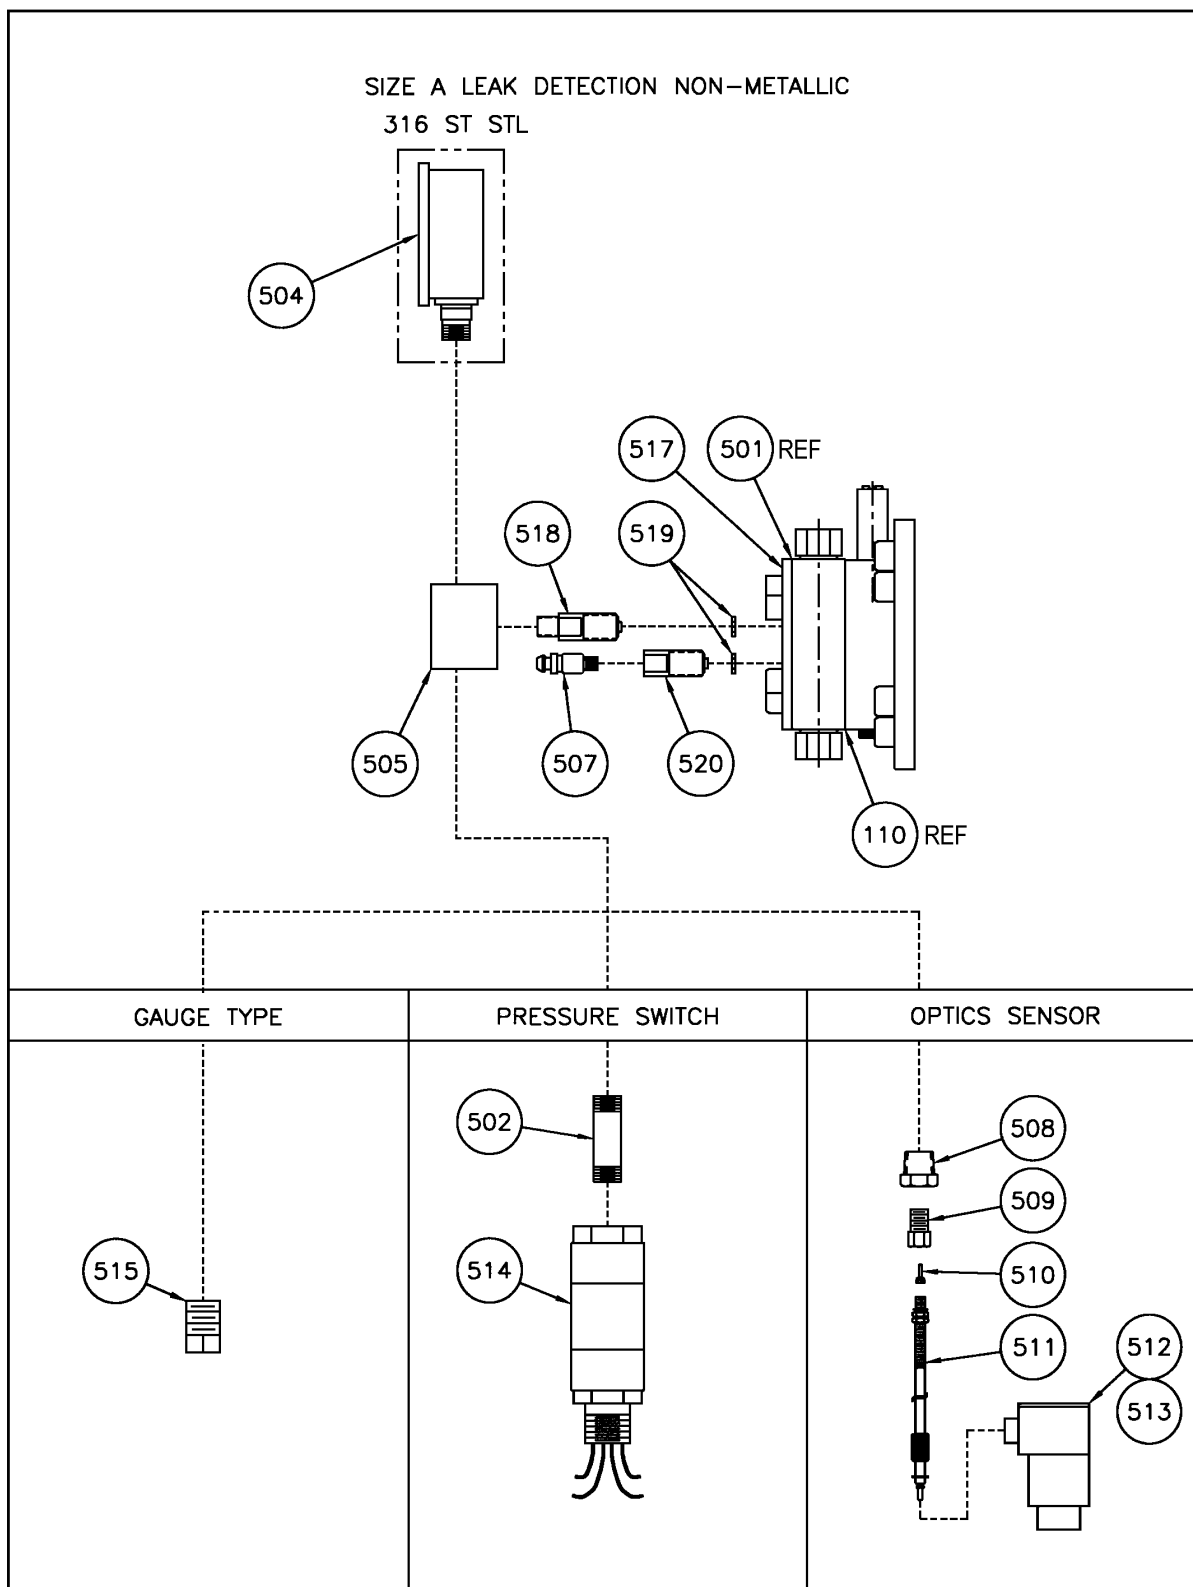

Figure 28. Non-Metallic Leak Detection, Size A.
6.7 NON-METALLIC LEAK DETECTION, SIZE A (PVC & KYNAR) (FIGURE 28)